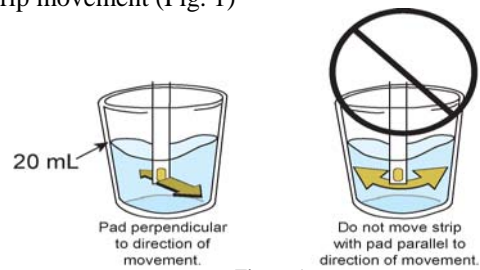

Figure 1
2. Immerse indicator pad in sample solution and move test strip back and forth vigorously for 10 seconds. The indicator pad must be perpendicular to the direction of strip movement (Fig. 1)